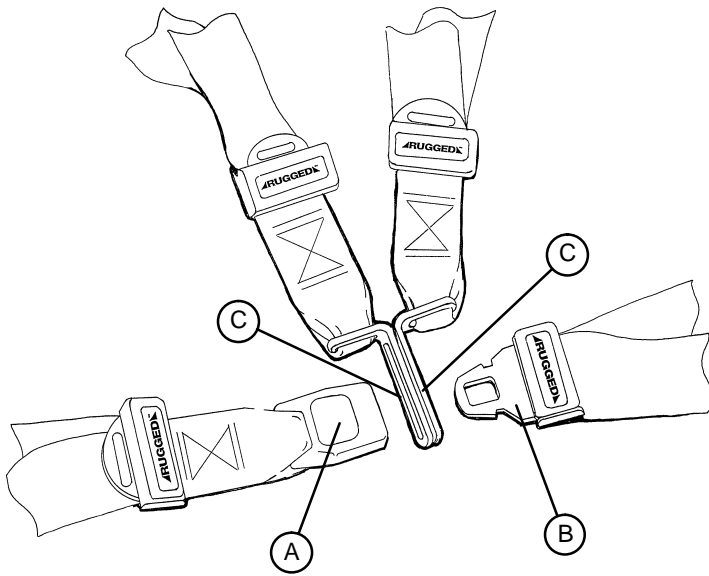

Figure 10 – Buckling the Safety Restraint
To open the restraint, press the red button (A) on the front of the buckle "receiver". This releases the buckle "tang" (B) which can then be pulled out of the receiver (Figure 10).
To close the restraint, push the tang into the receiver until a "click" is heard. When fastening the chest restraint be sure the tang passes through both links (C) on the shoulder strap (Figure 10).